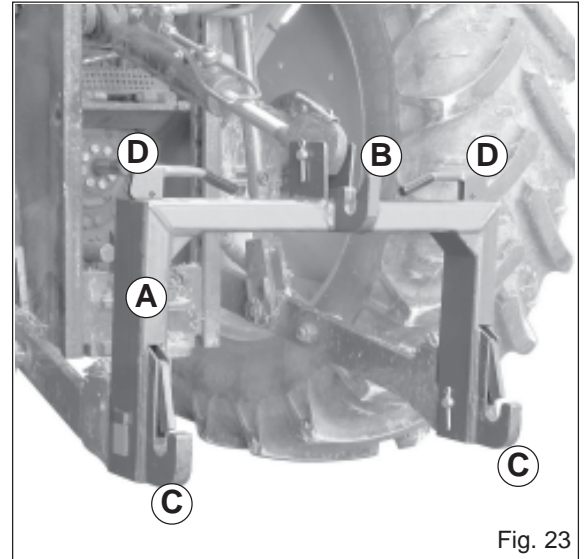

Fig. 23
- 1) Install hitch Quick Coupler (A, Fig. 23) on the tractor (see tractor operator manual).
- 2) Stop vehicle on a level surface, not on a slope, then moving back to the tractor until the Quick Coupler (A) is range with the (B and C, Fig. 23) hitch points of the sickle bar.
- 3) Raise the Quick Coupler (A, Fig. 23) and make sure that
4. Raise the two Quick Coupler levers (D, Fig. 23) to unloch sickle bar.